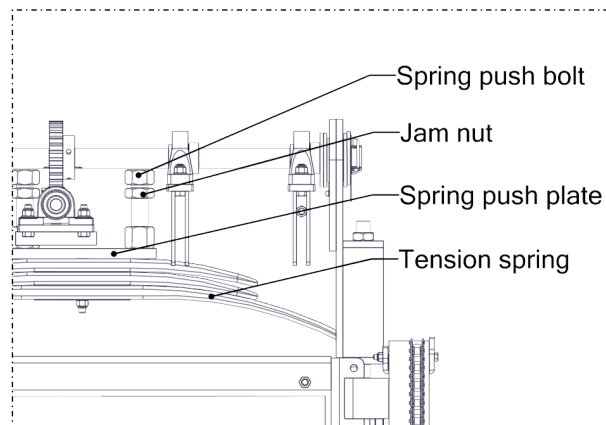

Figure 4.11
*Note: Rolling quality is impacted by three variables: roll speed, spring pressure, and feed rate. If grain quality is good at low feed rates, but decreases quickly as feed rate increases, the spring pressure may be too low. To increase pressure, loosen the jam nuts and turn the spring push bolts (Figure 4.11) inward a 1/2 turn at a time. Keep the pressure even on both bolts (if applicable). In difficult cases, reducing the feed rate is one more way to control feed quality.*